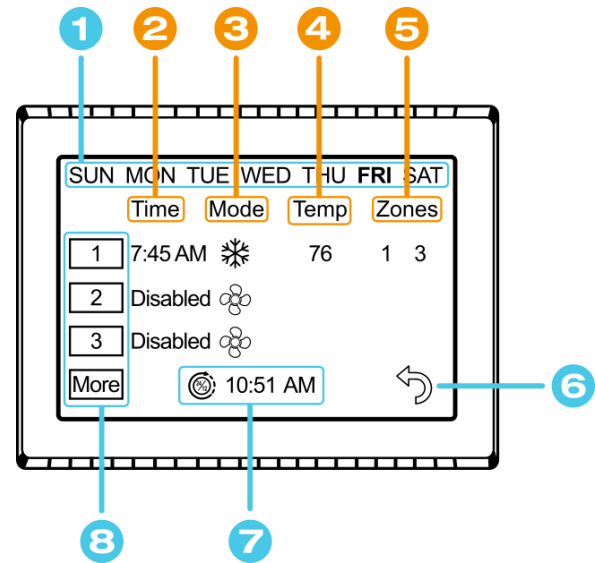
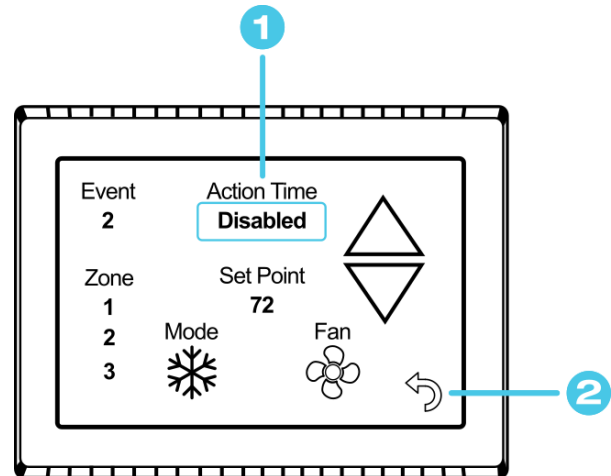
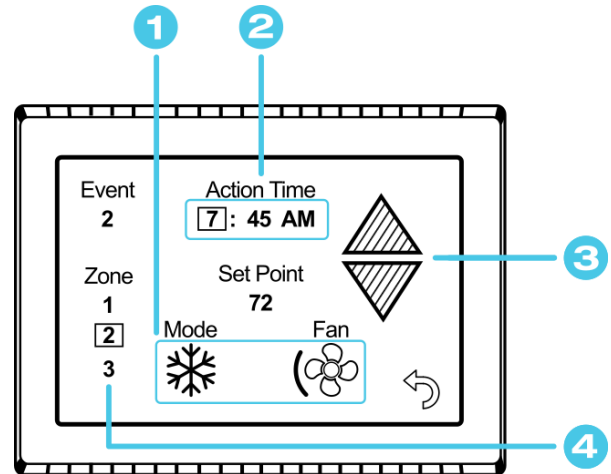

Figure 3 - Main Schedule Screen
Figure 4 - Schedule Edit Screen (Disabled Event)
Figure 5 - Schedule Edit Screen (Enabled Event)
The schedule supports 7 day per week scheduling of events. Events can include changes to the set point or mode of operation for one or more zones. Each numbered row is an event that can be configured. *Figure 3* shows the main schedule screen. Tap the “Schedule” button from the *Settings Screens* to enter.
Events are numbered 1 to 6 along the left side of the screen. Each row is a numbered event. Tap an event to edit it and advance to the schedule edit screen, shown in Figure 4. Tap “More” to see events 4, 5, and 6.
Figure 4 shows the edit screen when an event is tapped as shown in *(8) Scheduled Events* of *Figure 3 - Main Schedule Screen*. The event time on the main schedule screen and Action Time in the edit schedule screen will show disabled until a time is set. Tap “Disabled” (1) at the top of the screen to show a gray box around the Action Time to select it. The up and down arrows change to full color once a selection is made. Use the arrows to make a change to what is selected. Use the back arrow (2) to save any changes and leave the screen.
Figure 5 shows the schedule edit screen once a valid time is set for the event.
1. Tap the edit schedule button as described in the *Schedule – Edit, Enable or Disable* section in settings to enter the main schedule screen, shown by *Figure 3*.
2. Ensure that a valid *(7) System Time* is shown. Tap the day you want to set up a schedule for, then the event you want to edit, all shown by *Figure 3*. Tapping the event will take you to the edit schedule screen, shown by *Figure 4* and *Figure 5*.
5. Tap the back button once again to return to the settings screen. Activate the schedule by pressing the schedule button with the “Enabled/Disabled” subtext as described in the *Schedule – Edit, Enable or Disable* section in settings. When enabled, it may also be noted on the *(11) Info Screen*, under the *Main Screen*.